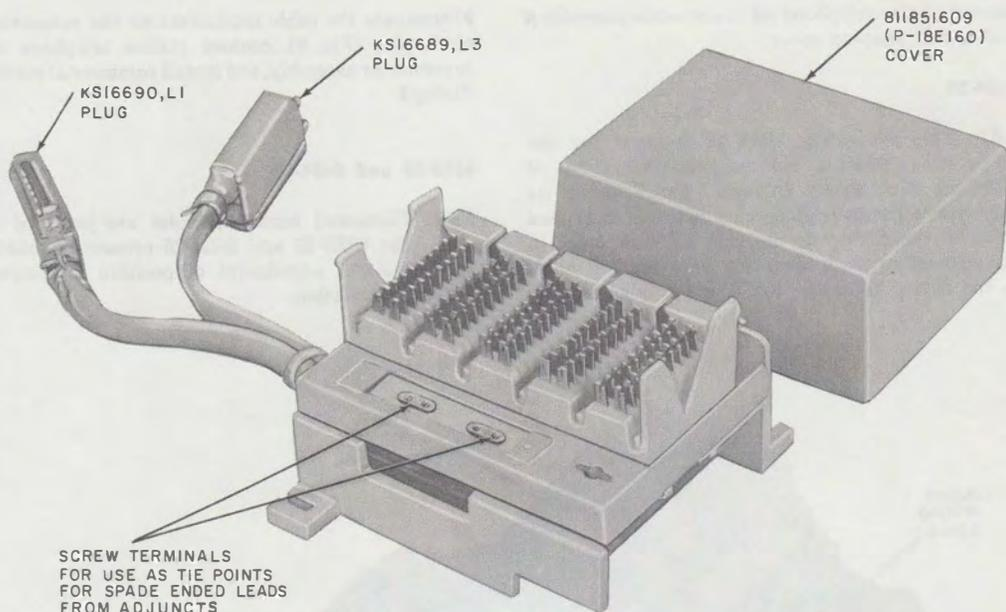

Fig. 3—66E8-25 Connecting Block
- Add new Fig. 3, 6, and 7.
2.05 The 66E8-25 connecting block (Fig. 3) is equipped with a molded plastic base and provides full access to the 50 conductors of the connector cable and mounting cord supplying a telephone set. The connecting block can also be used to gain access to the leads in one finger of larger connector cables and mounting cords such as those for CALL DIRECTORS®. Primary use of the 66E8-25 connecting block is with the 2A transmitter-receiver used to supply HFAI in the 1A1 or 1A2 Key Telephone System.